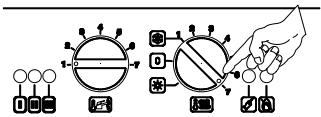

Figure 15.8
- Turn the boiler ON positioning the function selector B in the position shown in figure 15.8 and ensure that the room thermostat is set to "heat demand".
- Watch the gauge and check to see if the ignition pressure registered corresponds to the values given in the Technical Data. Turn off the boiler and reignite it by turning the function selector B to the OFF position and then back to that indicated in figure 15.8
- Turn the boiler ON positioning the function selector B in the position shown in figure 15.8 and ensure that the room